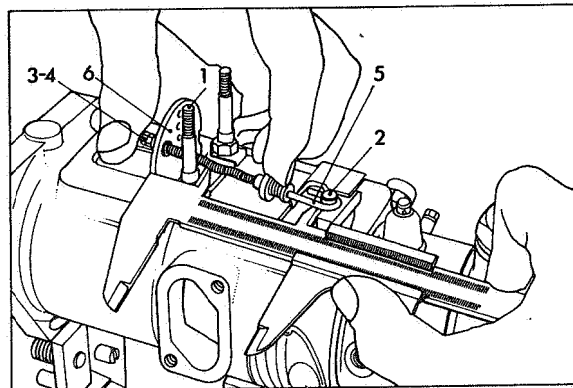

Fig 97 Setting governor linkage
Set the link length with a vernier gauge as shown in Fig 97 so that the correct internal dimension is obtained between the larger diameters of the governor control cover stud (1) and the metering valve lever pin (2). Adjustment is made by slackening the linkage locking nut (3) and tightening or loosening the linkage nut (4) on the end of the hook linkage (5). When setting, apply light pressure to the governor control arm (6) to hold the metering valve in the fully open position. Ensure that the vernier gauge is held parallel to the axis of the pump. After setting, tighten linkage locking nut.